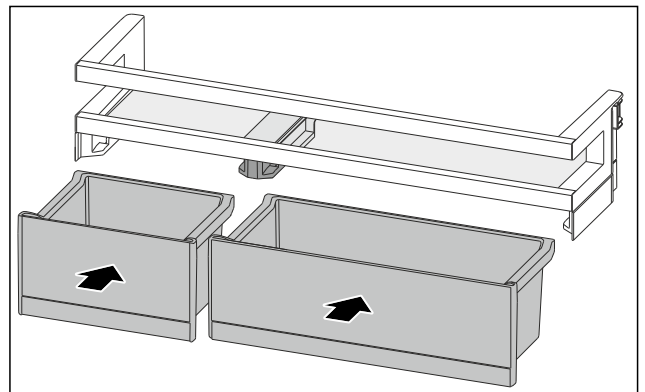

Fig. 194
- ▶ Insert the VarioBoxes in reverse order. (see Fig. 194)